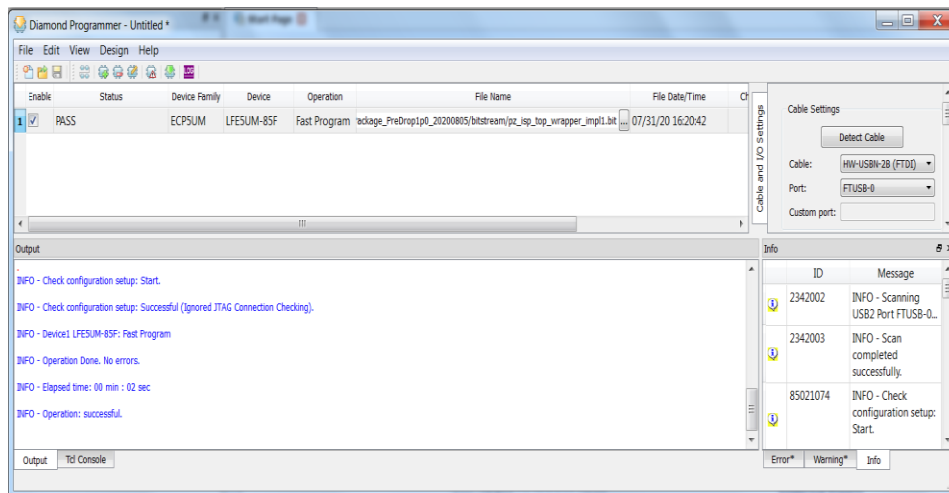

Figure 4.5. ECP5 Programming Status
5. Select **LIFMD** for Device Family, **LIF-MD6000** for Device, **Fast Program** for Operation, and **mVision_CS12_2_parallel_impl1.bit** for File Name as shown in Figure 4.5.